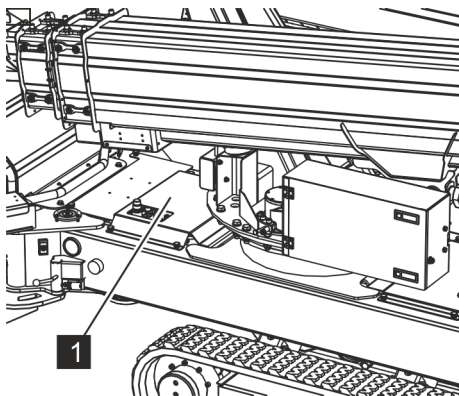

Fig. 181: Cover
1. ➔ Unscrew the cover (Fig. 181/1).